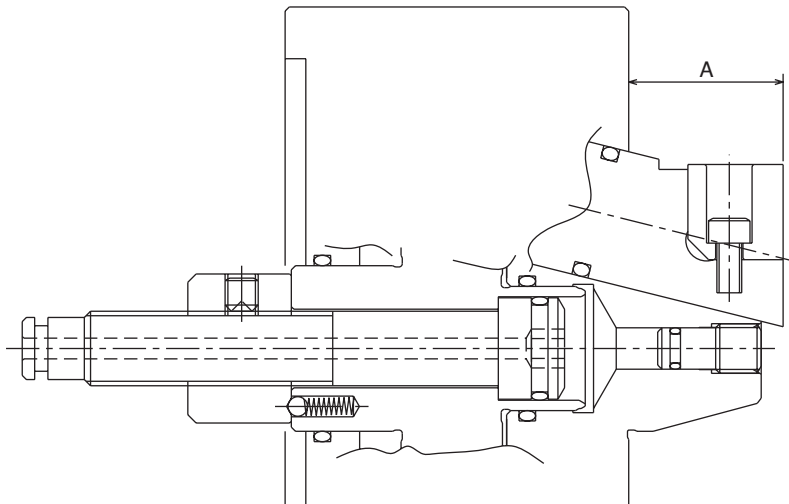

Fig. 13
- The appropriate position of the plunger at the cylinder forward end is the position when the dimension A in Fig.13.